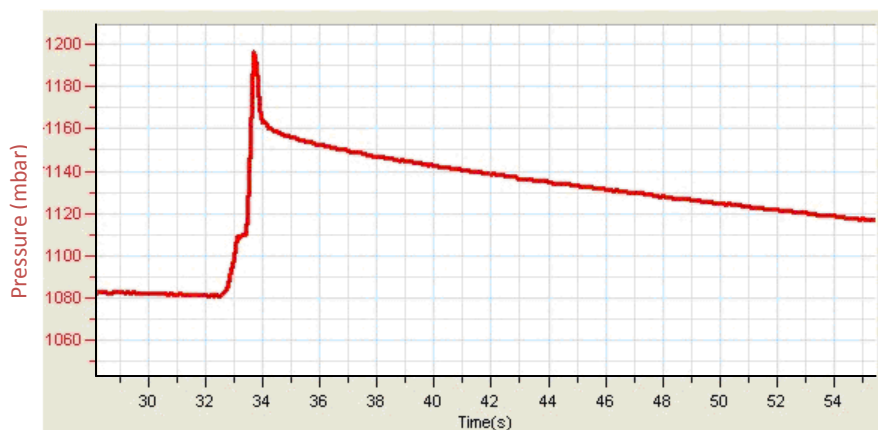

Figure 4
5. If the pressure drops (see Figure 4) there is a leak. Check your seals carefully and use a material such as modeling clay to seal off any possible openings. Repeat step 4. If that doesn't help, replace the stopper.